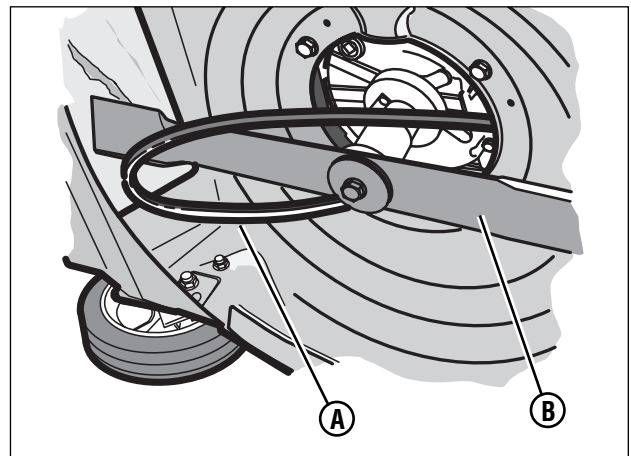

Figure 19: Removing the belt
5. To remove the rear of the drive belt (**A**, **Figure 19**), slip the drive belt over the end of the blade (**B**).